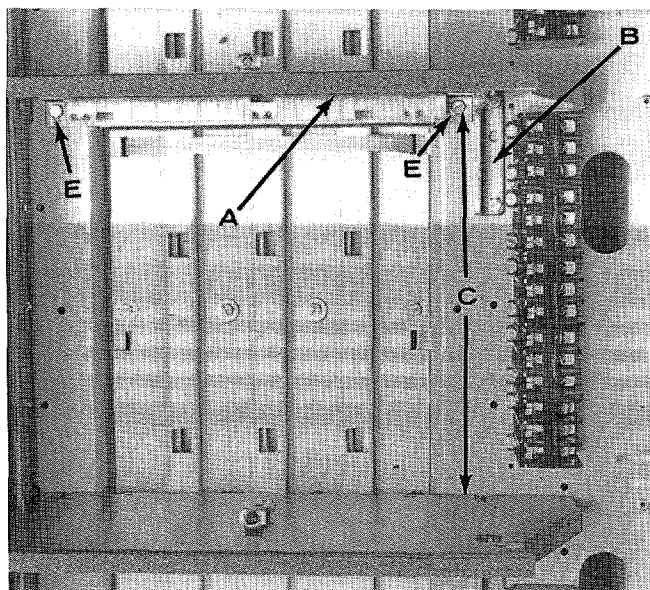

Fig. 33. Mounting the horizontal shelf assembly
1. Select the proper holes in left- and right-hand vertical steel plates for mounting the horizontal shelf (A) and support bracket (B), (Fig. 33). The vertical distance (C) is equal to the height of the unit to be installed.
2. Mount shelf assembly (A) and support bracket with $\frac{1}{4}$ -20 self-threading screws at points (E) as shown in Fig. 33.